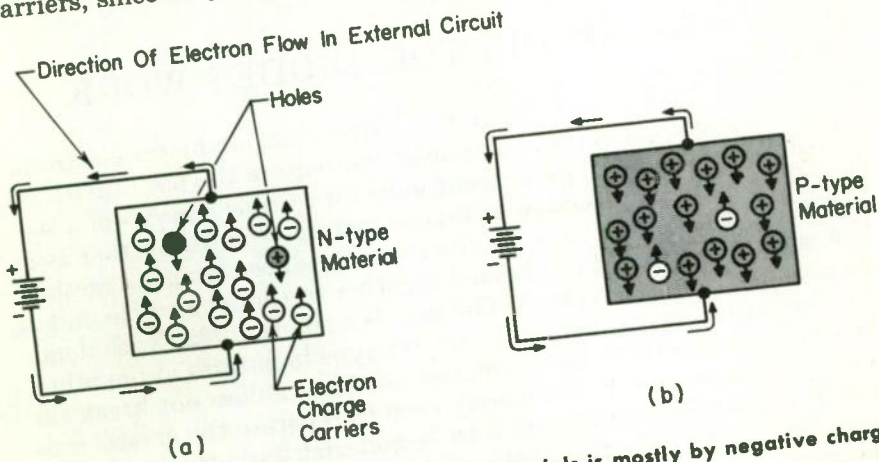

Fig. 11 (a) Conduction through N-type materials is mostly by negative charge carriers (electrons).
A picture of conduction in N- and P- type materials is given in Fig. 11. Although the majority charge carriers in (a) move in a direction opposite to that in (b) of Fig. 11, the direction of electron flow in the external circuit is the (109) _____ in both figures.